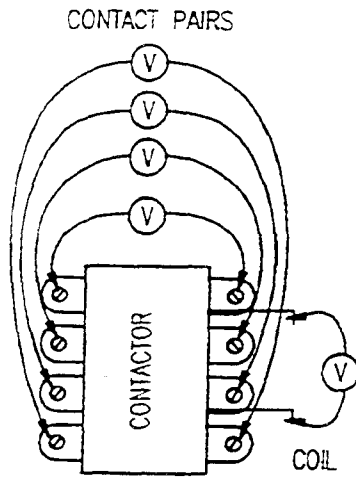

Figure 5-16. Heater Contactor
8. Refer to Heater Contactor Test (Figure 5-16) and check for 120 VAC across the coil terminals of the heater contactor.
4. Refer to Figure 5-16, and check for 120 VAC across the heater contactor coil terminals.
5. Set the voltmeter to the 500 VAC scale. Refer to Figure 5-16, and check the voltage across the contact pairs.